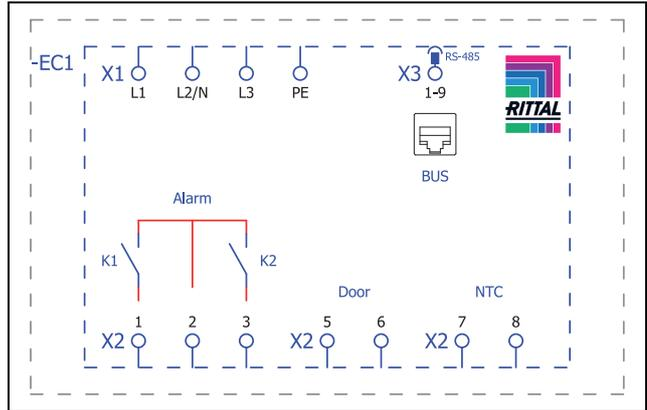
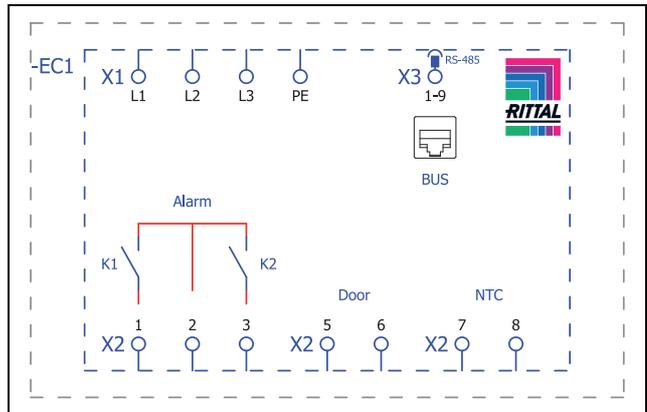

Fig. 29: Circuit diagram SK 3185.330
Fig. 30: Circuit diagram
- Remove the mains connector from the dispatch bag and connect to the mains as shown on the connection diagram (fig. 29 or fig. 30).